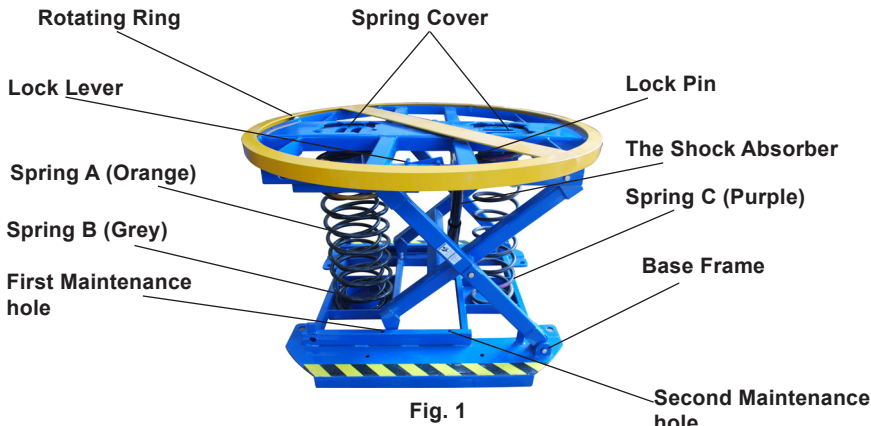

Fig. 1
5. The shock absorber is attached to the frame of the unit with a lock pin, and this is held in place by a linch pin. During maintenance, the lock pin is used to insert maintenance hole to hold the table frame in the raised position, Fig 1. Take a look at the mechanism and note the positions of the parts.